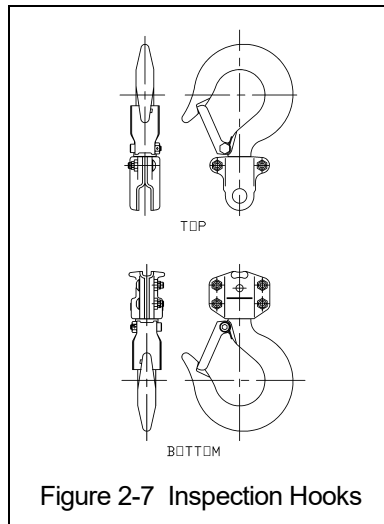

Figure 2-7 Inspection Hooks
- The Inspection Hook is designed to facilitate the inspection of the internal surfaces of the hook yoke and shank portion of the hook itself. The Inspection Hook is suitable for applications where inspection of the internal parts of the hook set is required. The inspection hook uses the standard Harrington hook set and is assembled with high-strength locking fasteners instead of rivets. Inspection hooks are available in top and bottom versions. Refer to Figure 2-7.